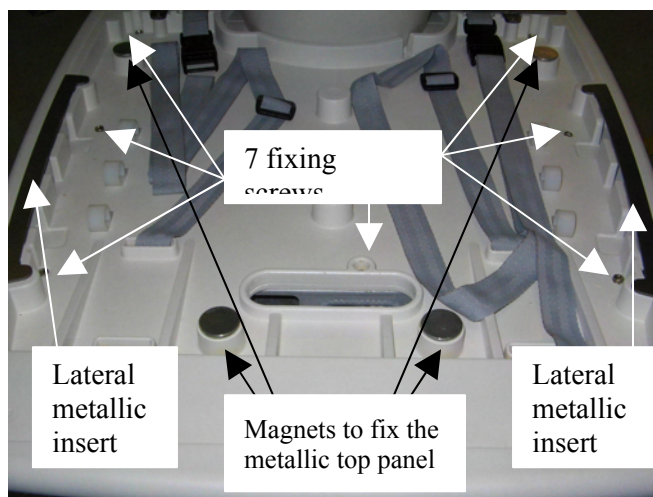

Figure 12.
-Remove the seven screws which are accessible removing the metallic top cover (see Figure 12)